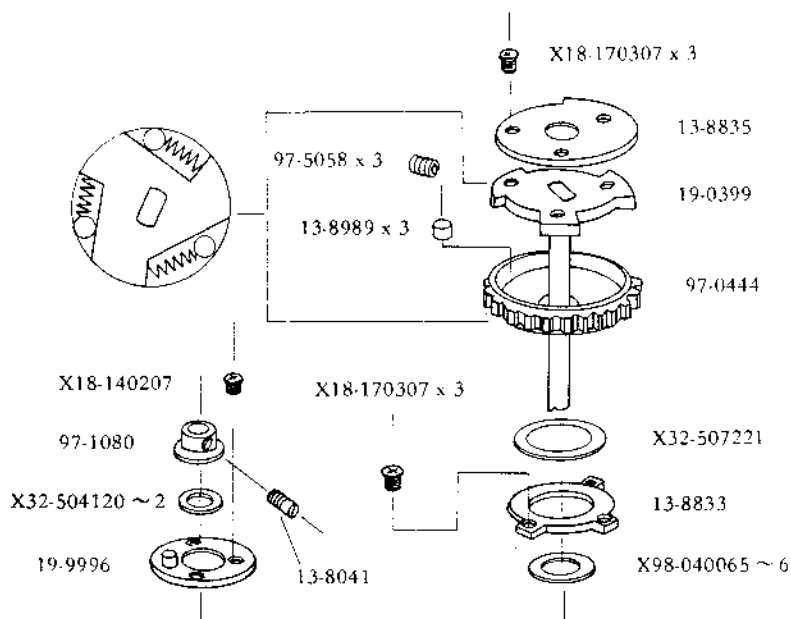

Fig. 5
- 3) Install the parts in the order shown in Fig. 5.